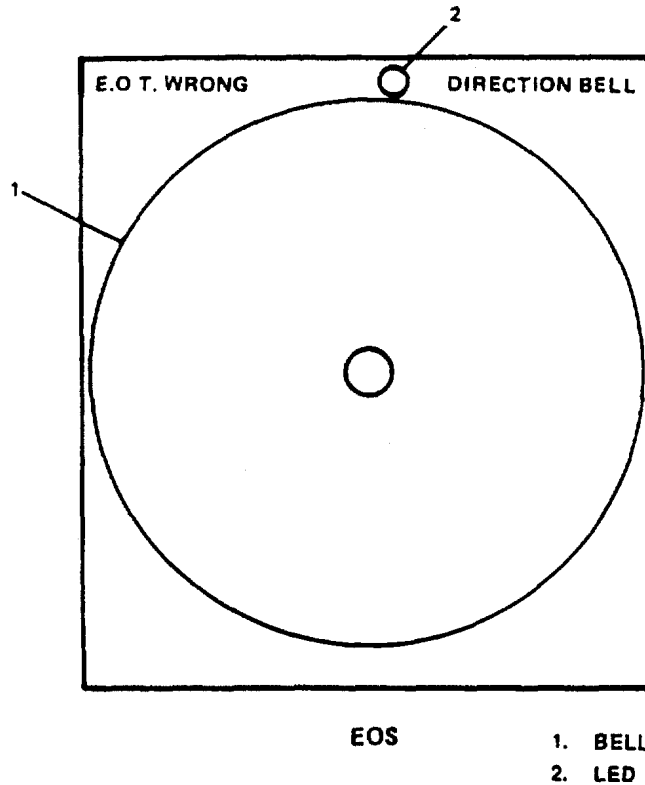

Figure 2-277. E.O.T. Wrong Direction Bell
(2) EOS.
• Bell (Figure 2-277) will sound and LED will light signifying a change has been ordered.
• Bell (Figure 2-277) will silence and LED will go out.
• If incorrect throttle adjustments are made, bell (Figure 2-277) will sound and LED will light in both pilothouse and EOT until throttles correspond with EOT ordered direction.